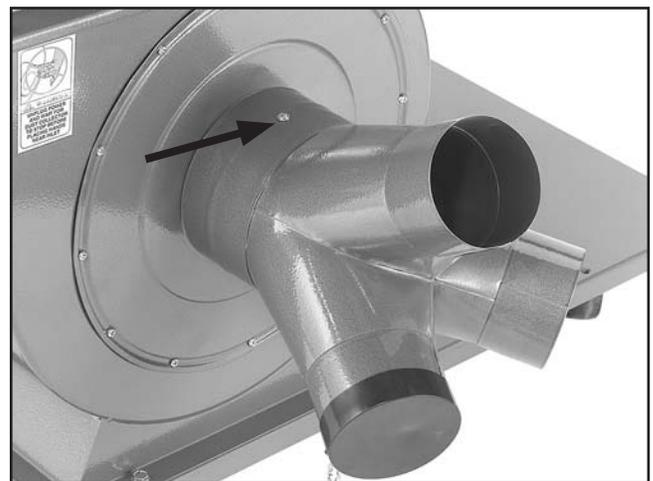

Figure 25. Installed inlet.
17. Secure the inlet in place with the Phillips head tap screw (**Figure 25**).